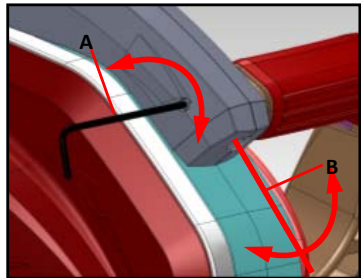

Fig.11
1. Adjusting the laser: Tighten or loosen the (A), for adjusting the laser indication direction. Adjusting tooling: M2 HEX wrench (A) as Fig.11